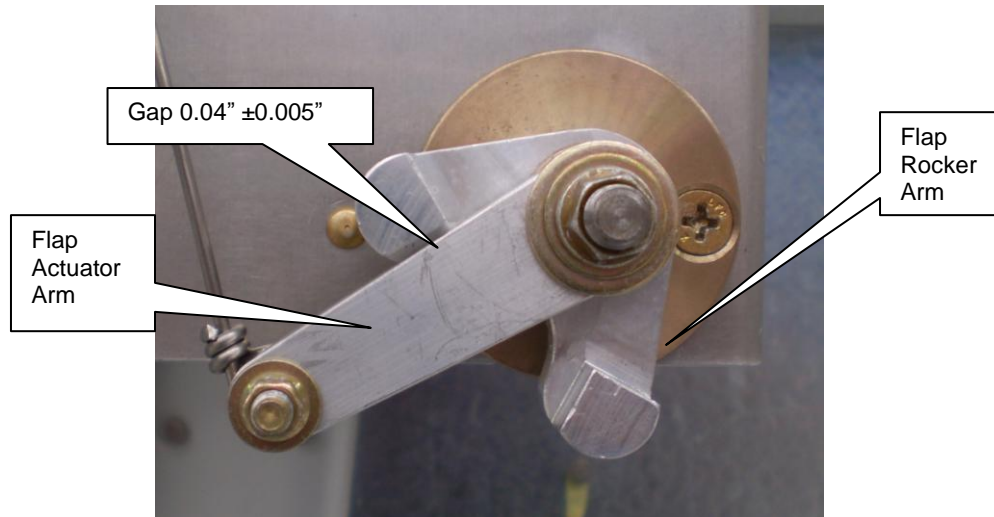

Figure 4
16. Install alternate air cable, (item1). Push the alternate air knob in fully. Rotate the Flap Rocker Arm fully anti-clockwise when viewed looking at the airbox in the aft direction. The Flap Actuator Arm is to be set 0.040" +/- 0.005" from the upper stop of the Flap Rocker Arm as shown in Figure 4. Adjustments can be made by loosening the Cable Clamp and sliding the cable out through the Clamp. Secure the cable with the Cable Clamp following any adjustment. Cycle the alternate air control from closed to open several times to ensure correct operation.